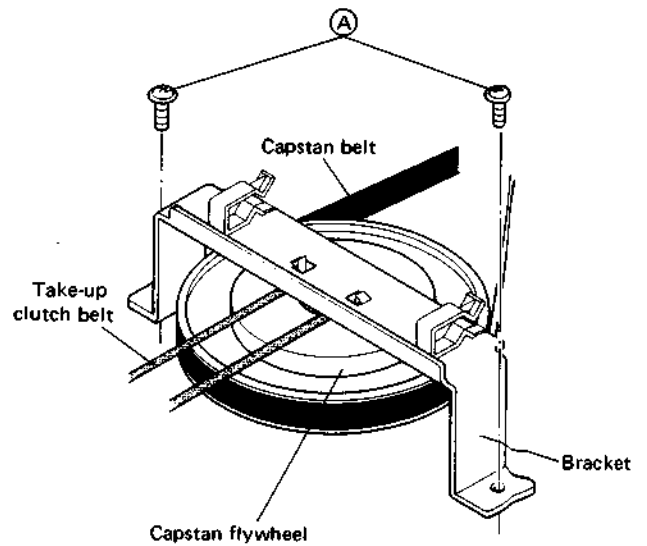

Fig. 4-25 Capstan flywheel replacement
1. Take out two screws (A) and remove the bracket. See Fig. 4-25.